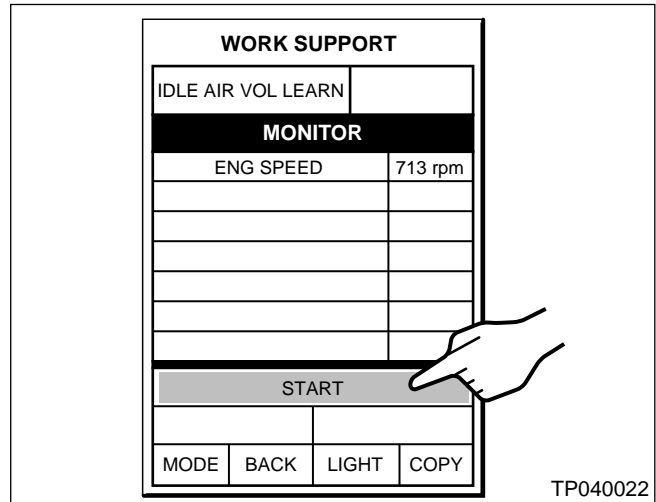

Figure 5
e. Press **START** on the “WORK SUPPORT” screen to begin the Idle Air Volume Learning (IAVL) procedure. See Figure 5.